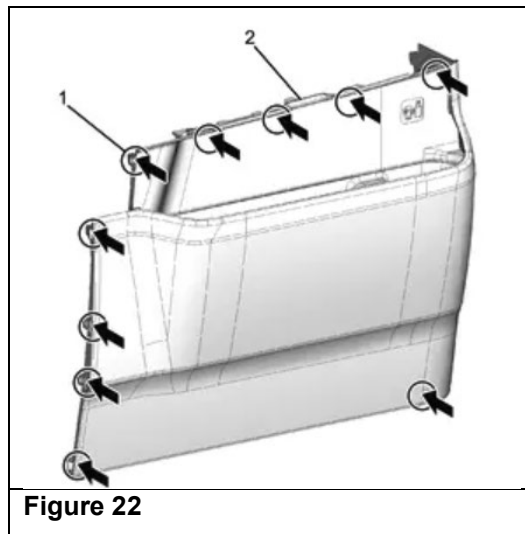

Figure 22
30. Connect the passenger airbag cut off switch connector and install the side under cover. (See Figure 22.)